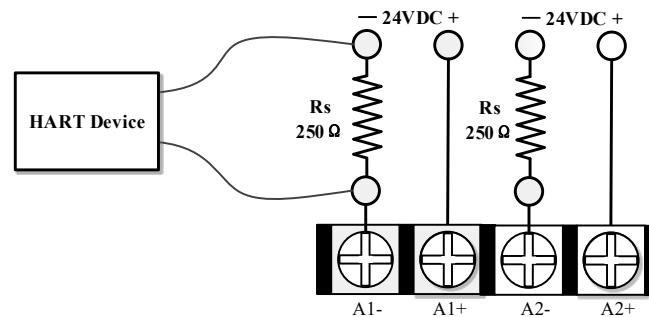

Figure 6-1 HART connection, passive current loop
- 6.1.2.3 See figure 6-1, 6-2 for wiring